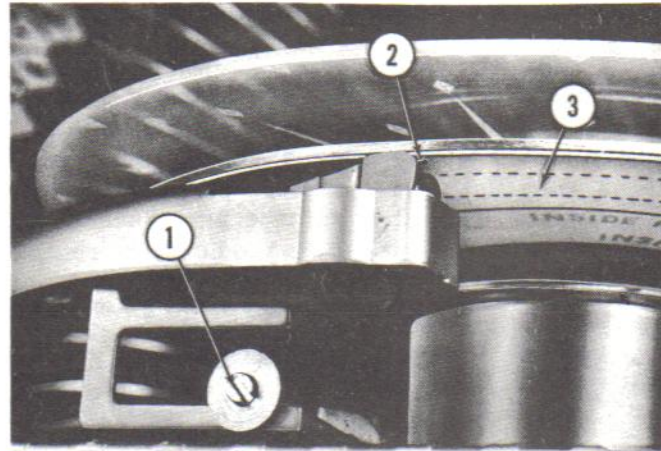

Fig. 67. TONE ARM ADJUSTMENT
(1) The tone arm feed-in adjusting screw (Fig. 67, Item 1) is set at the factory using fixture X42226 (Item 3) and should need no adjustment. How-